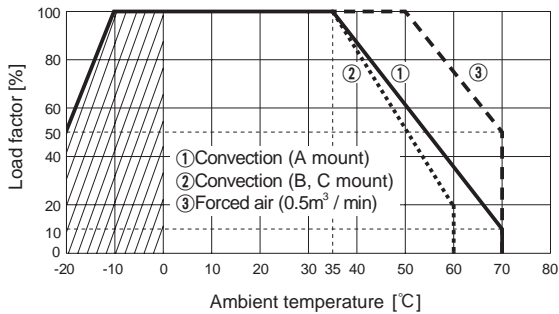

Fig.3.5 Ambient temperature derating curve for PLA50F-5
- Make sure the case temperature at point A and point B is less than the temperatures shown in Fig. 3.1 to Fig. 3.5.
- When the power supply is used with a forced cooling, make sure the case temperature requirements shown in Fig. 3.1 to Fig. 3.5 are met.